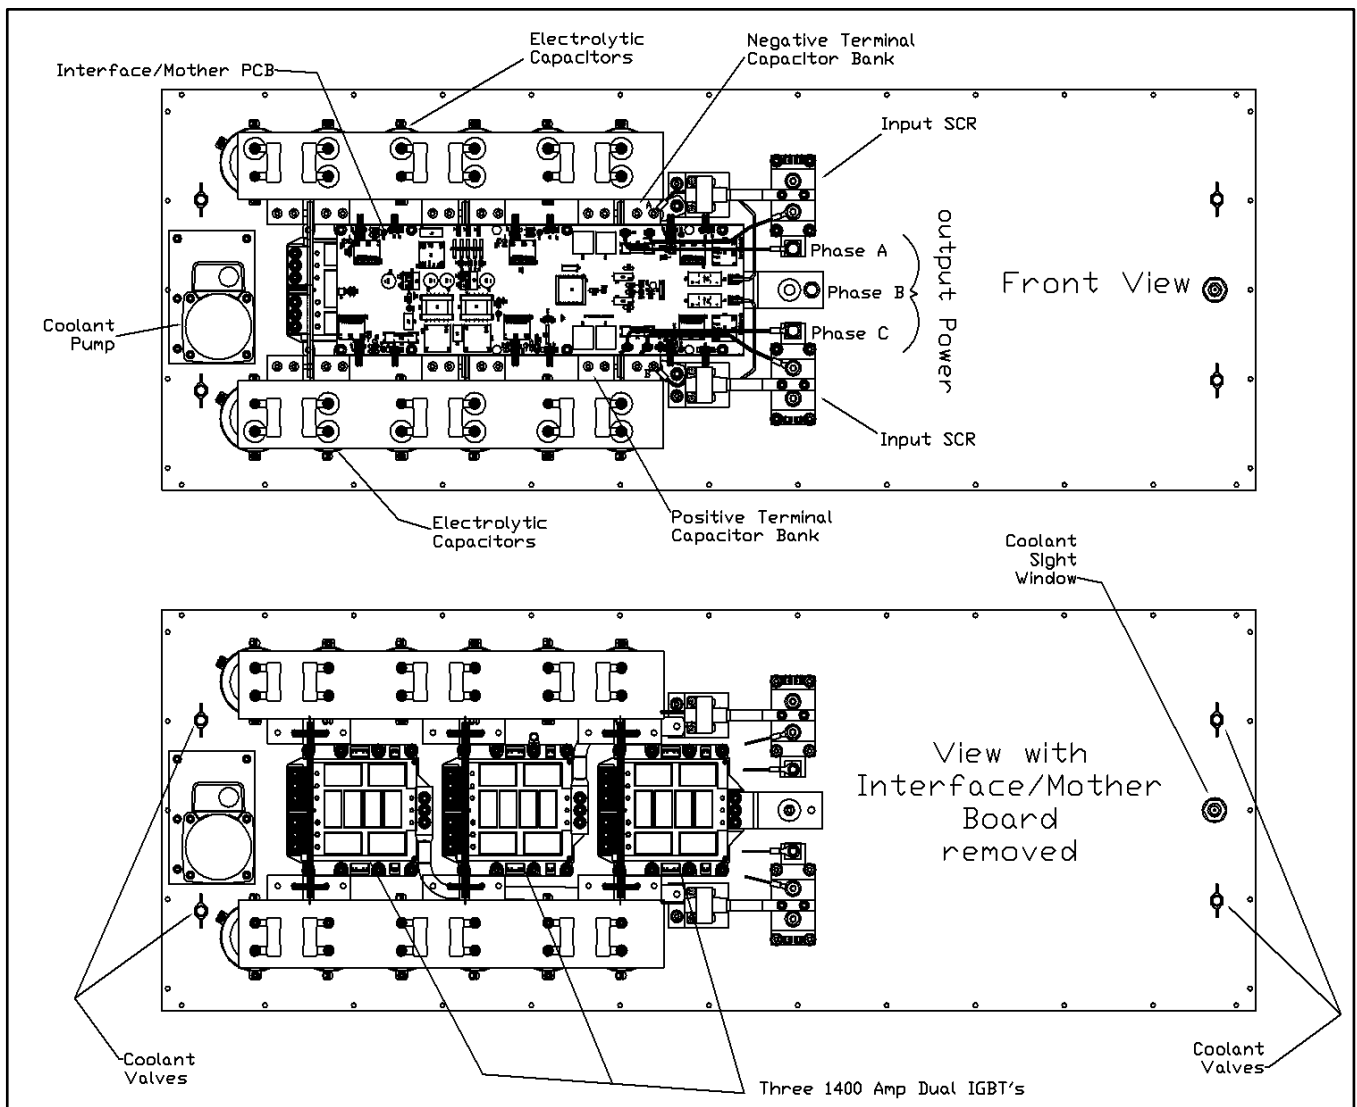

Figure 5.2b – 225 amp Power Component Layout
- On 225 amp units, check for leaking coolant or wet spots near or around the converter heat sink, pump or bottom of the enclosure. **Note:** the circulation pump is green in color and located on the heat sink at center bottom (see **Figure 5.2b**).
- On 225 amp units, check that coolant is visible in the sight window near the top of the converter heat sink. With the pump running, you will notice movement and small bubbles past the window (see **Figure 5.2b**).
Note: The 225 amp filter has a wet heat sink which is totally self-contained. There is a circulator pump which moves the 75/25 water- ethylene glycol mix within the heat sink channels. Under normal conditions, there should be no need to add coolant. The coolant will need to be drained if there should ever be a need to replace the circulator pump. To accomplish this there are four drain / bleeder valves located on the heat sink; two at the top and two at the bottom. Turning the valves counter-clockwise will open them, and clock-wise will close them. Contact TCI Technical Support first if there should ever be a need to service the pump, add coolant or operate the valves. (See **Figure 5.2b**)